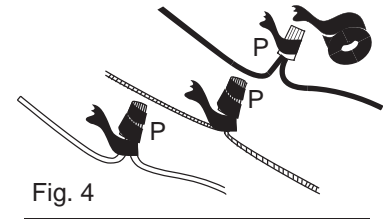

Fig. 4
4. Screw wire connectors (P) on in a clockwise direction. Wrap electrical tape around each wire connector (P) down to the wire as shown in Fig. 4.